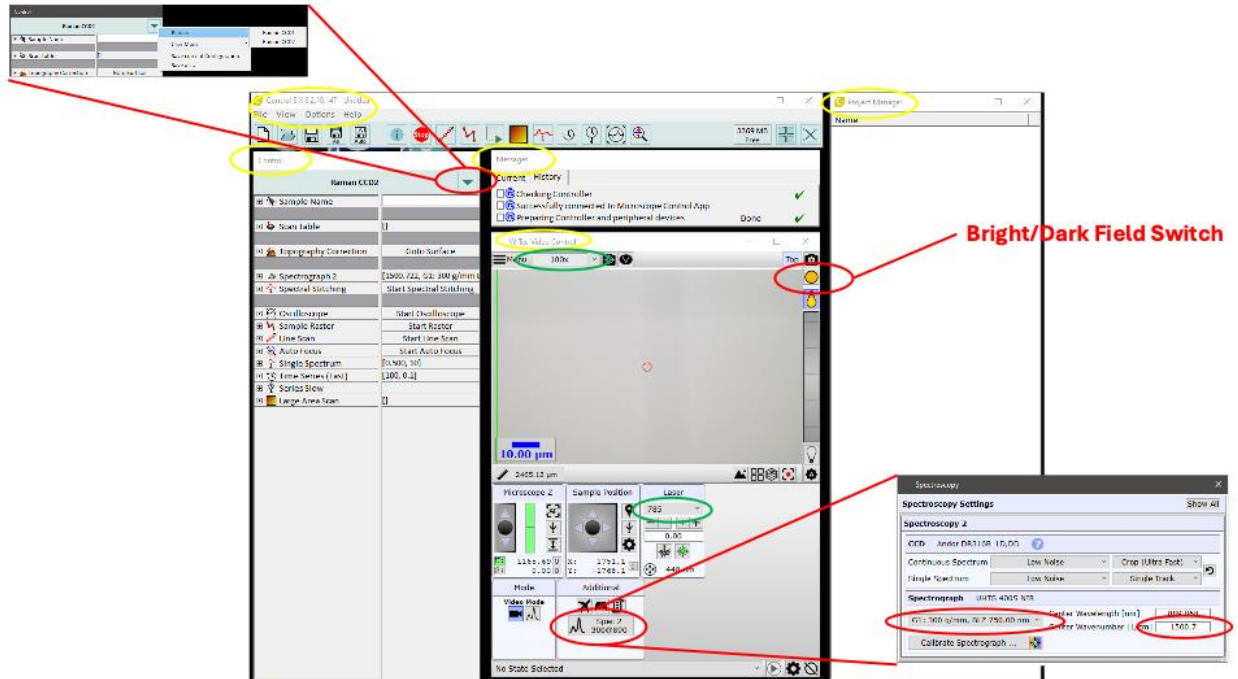
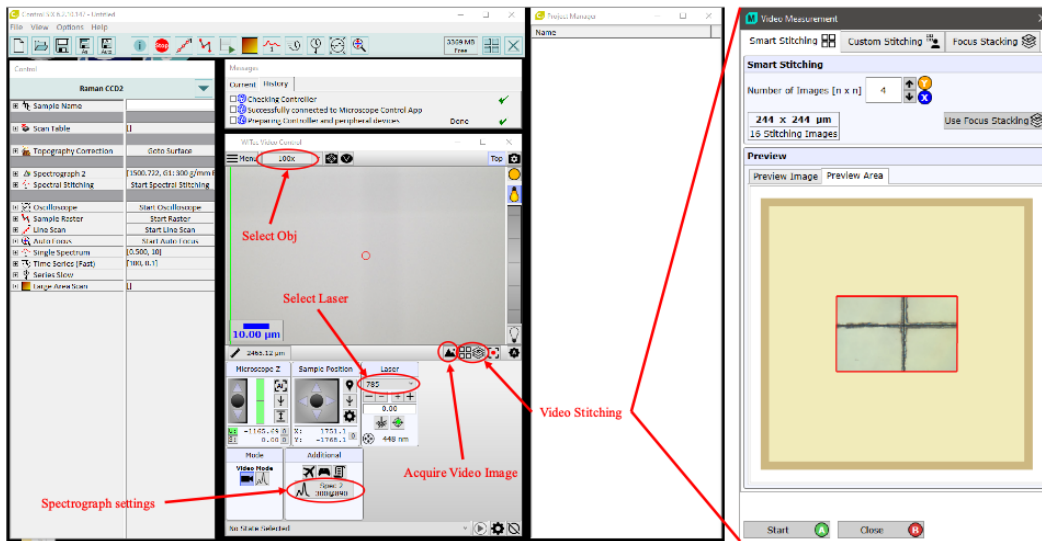

Figure 4
Figure 5
- 5) Double click on “Control SIX” on the desktop to start microscope control software. It contains five parts (see Fig 4): **Main Menu, Control, Messages, Video Control, Project Manager** (yellow circles).
- 6) Control SIX also automatically enables Project SIX (**Project Manager** in Fig 4) that is used to display/process data.
- 8) For laser 488nm and 532nm, you must select Raman CCD1(upper left in Fig4); for laser 785nm, you must select Raman CCD2; for laser 633nm, you can select either Raman CCD, however performance of Raman CCD2 is better. Note: you should select SpectralCamera first then select laser.
- 9) Spectrum grating and center wavenumber are not in **Control>Spectrograph** anymore, they are in **Video Control>Additional** (lower right in Fig 4).
- 11) You can manually select Bright/Dark field in **Video Control** (upper right in Fig 4).
- 3) Make sure to select the 10x obj lens in Video Control window (Fig 5), find an easily recognizable feature on the sample, and do focus using the Xbox controller.
- 4) Switch lens to 50x or 100x by rotating turret along directions indicated. Remember to change lens in Video Control window (Fig 5). Focus again on the sample. If the sample has no clear feature, using field-stop diaphragm as focusing reference.
- 5) Take either video image or video stitching image or both (Fig 5). Double click image name in project manager window to open video images.
- 6) Select Raman CCD following Step 8 (Fig 4) in “**System power on**” session.
- 7) Select laser on microscope tower (Fig 2) and in the Video Control window (Fig 5).
- 8) Check Spectrograph settings in WITec **Video Control>Additional** (Fig 5 & Fig 4). There are three gratings for Spec1, G1:300g/mm; G2:1800g/mm; G3:2400g/mm. Only G1 give the full spectrum range 0-4000 wavenumber (1/cm). if you are not sure please select G1 for grating and choose 2000 for center wavenumber.